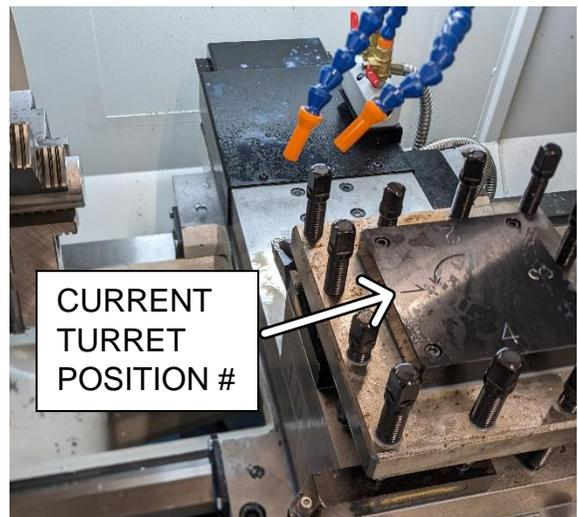

Figure 2
6. Press the SET-UP and then HOME TURRET soft keys. Enter the current turret position number as it appears on top of the tool turret (Figure 2) and press ABS SET.